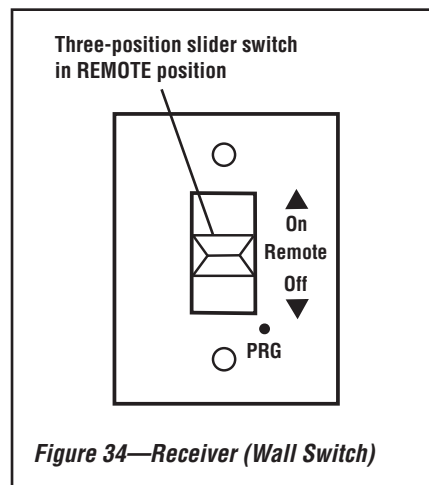

Figure 34—Receiver (Wall Switch)
4. Insert the three (3) provided AAA batteries into the battery bay in the transmitter, taking care to correctly align polarity (+/-).
5. Insert the four (4) provided AA batteries into the receiver battery bay (behind the wall switch plate), taking care to correctly align polarity (+/-).
6. On the receiver, place the three-position slider switch in the REMOTE position (*Figure 34*).